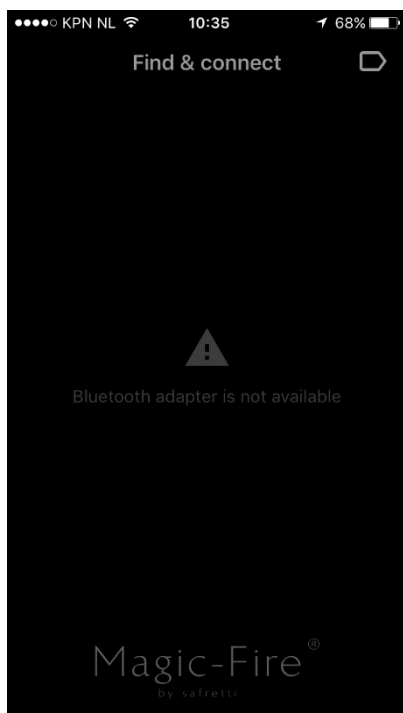

Fig. 1
- If you did not switch your telephone on Bluetooth yet, you will see the message below (fig. 1).